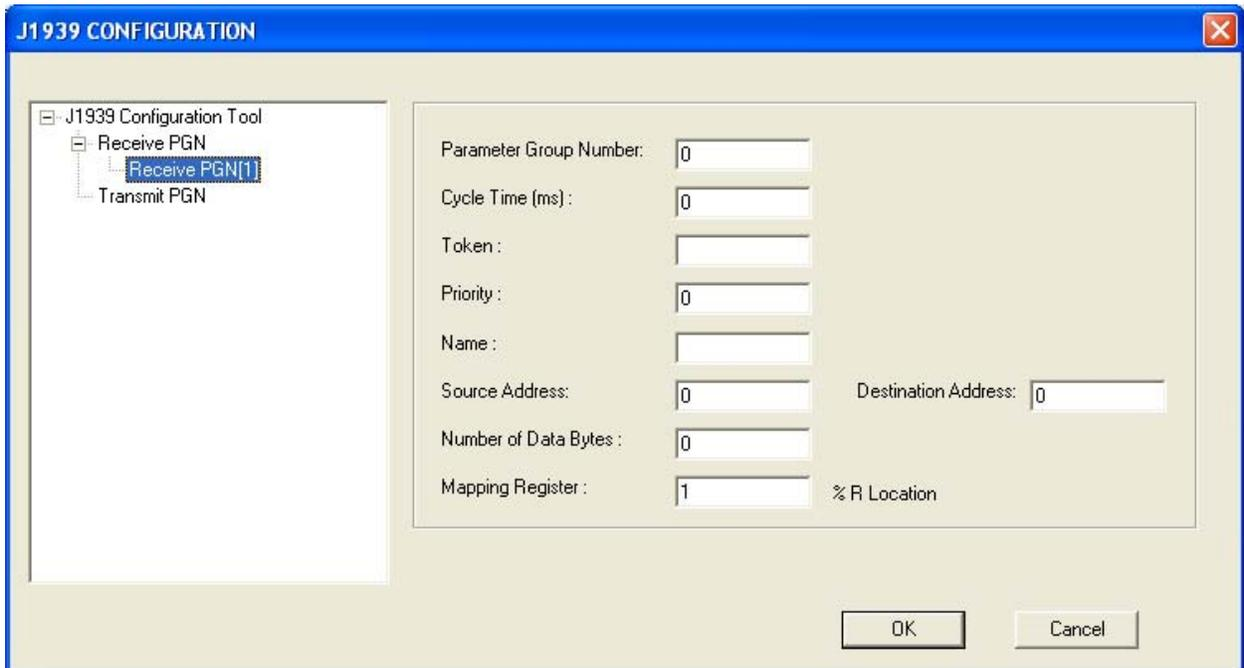

Figure 3.5 – Configuration of Receive PGN
Select Receive PGN (1) and configure the same. Refer Fig 3.5. For detailed description refer section 3.1